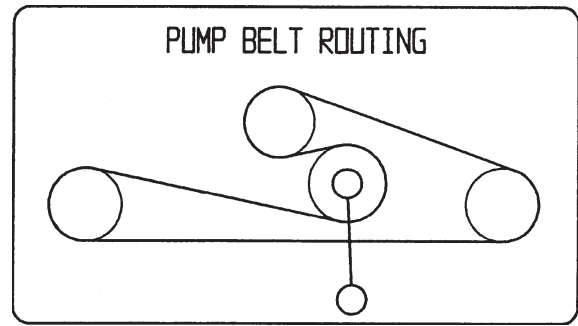

Figure 58
1. Pull the spring loaded idler down and remove traction belt from the engine and hydro pump pulleys (Fig. 58). Remove belt between pulleys.
2. Install new belt around engine and hydro pump pulleys (Fig. 58).
3. Pull spring loaded idler down and align below traction belt. Release pressure on spring loaded idler (Fig. 58).